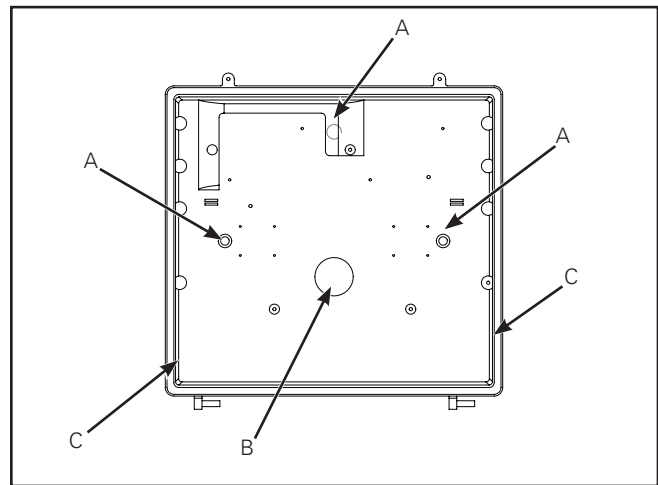

Figure 2
2. Prepare the back plate for mounting by drilling or knocking out the appropriate holes. (Figure 2)
The back plate has a cast-in drill and knock-out template to match any standard recessed junction box, three 5/8" knock-outs for mounting holes and three 1/2" NPS tapped holes for surface conduit or photo control unit. (Figure 2)